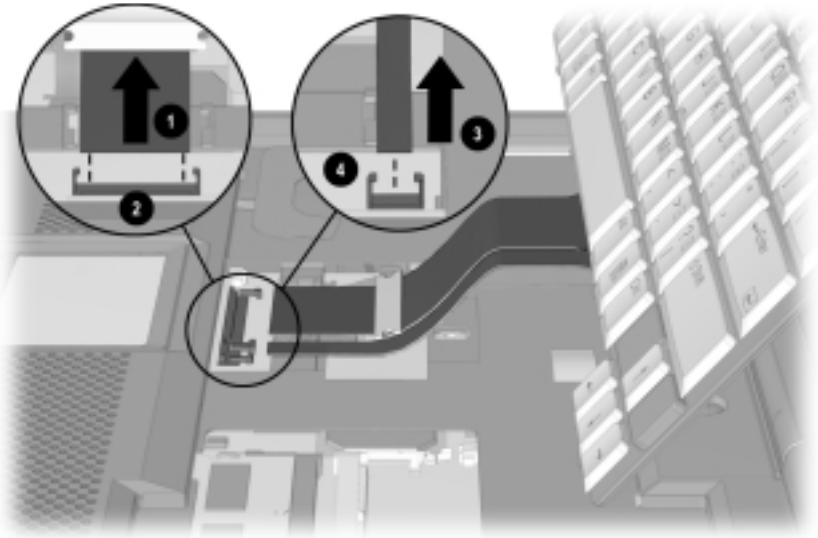

Figure 5-9. *Releasing and Disconnecting the Keyboard Cables*
8. Release the ZIF (Zero Insertion Force) connector that connects the keyboard cable ❶ (Figure 5-9).
9. Disconnect the keyboard cable from the system board ❷.
10. **(Armada E500 only)** Release the ZIF connector that connects the pointing stick cable ❸.
11. **(Armada E500 only)** Disconnect the pointing device cable from the system board ❹.